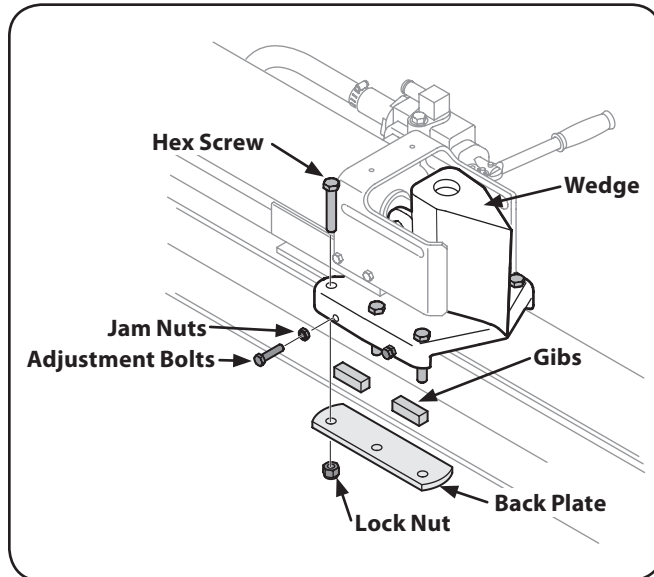

Figure 6-2
1. Loosen the jam nuts on the two adjustment bolts on the side of the wedge. See Fig. 6-2.
1. Loosen the lock nuts under each back plate and slide the gibs out. See Fig. 6-2.